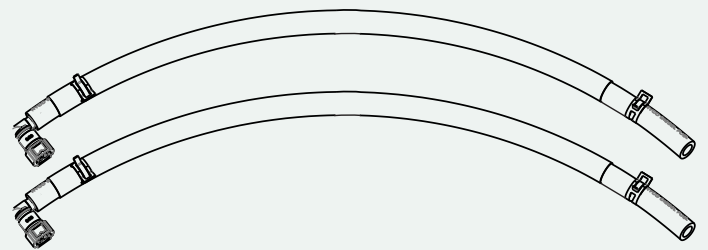

FIGURE 4
- 2 Install all four (4) supplied elbow connectors onto both supplied fuel hoses with supplied fuel hose clamps, as per Fig. 4. Do not tighten fuel hose clamps yet.